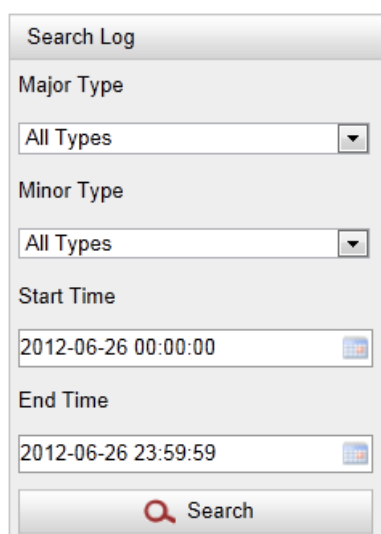

Figure 9-2 Log Searching
2. Set the log search conditions to specify the search, including the Major Type, Minor Type, Start Time and End Time as shown in Figure 9-2.